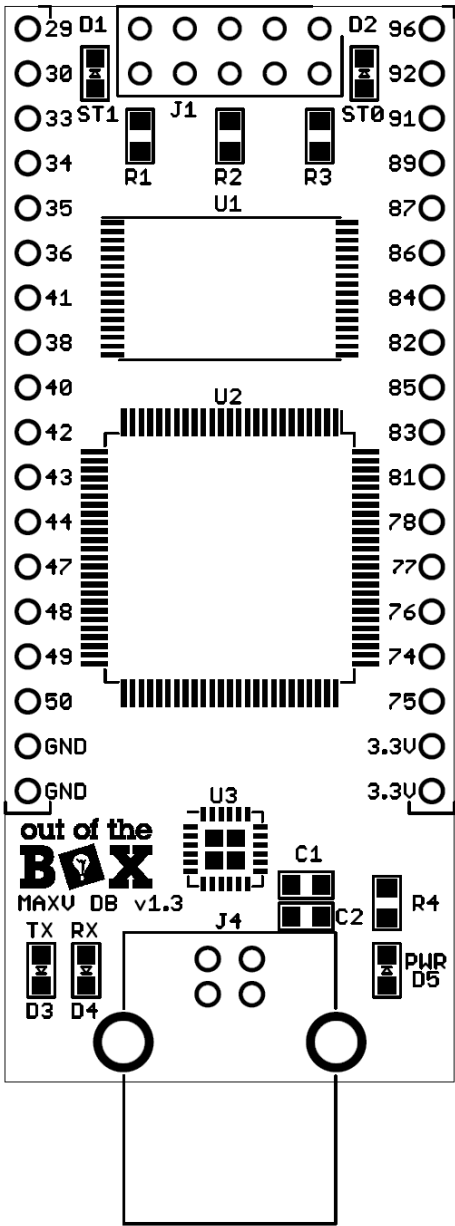

Figure 13: CPLD PCB top layer with available CPLD pins
1. To make sure you do **NOT** accidentally assign pins to the wrong location, use only the pins shown Figures 13 and 14.